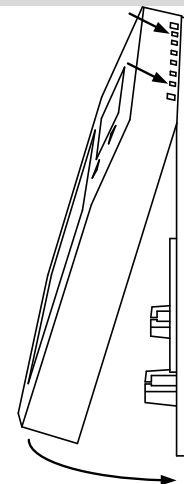

Fig. 4 – Closing Adjuster
- Close the adjuster. Latch the top of the adjuster on the top of the back plate and then press the bottom to snap the two together (see Fig. 4 Closing Adjuster).